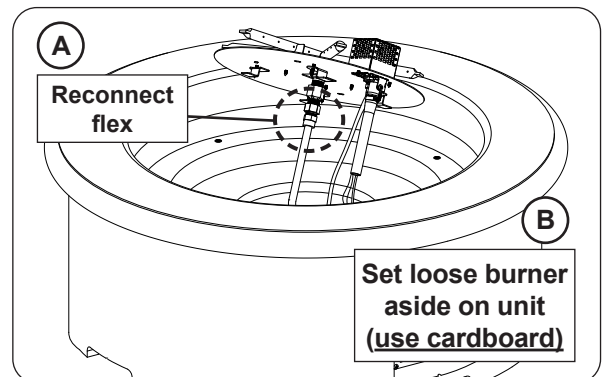

Fig. 29-3 Reconnect flex connector, set burner aside
7. Reconnect flex line coming from the valve to the burner assembly (see Fig. 29-3).